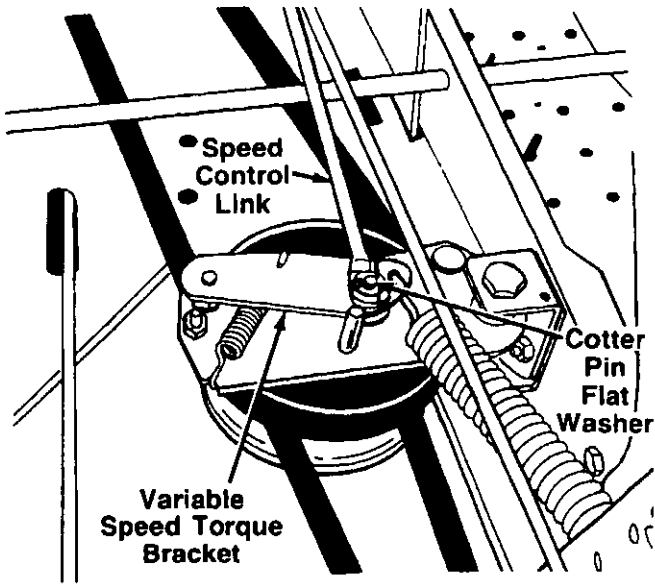

FIGURE 17.—Viewed From Beneath Tractor
- Disconnect the speed control link from the variable speed torque bracket by removing the cotter pin and flat washer. See figure 17.